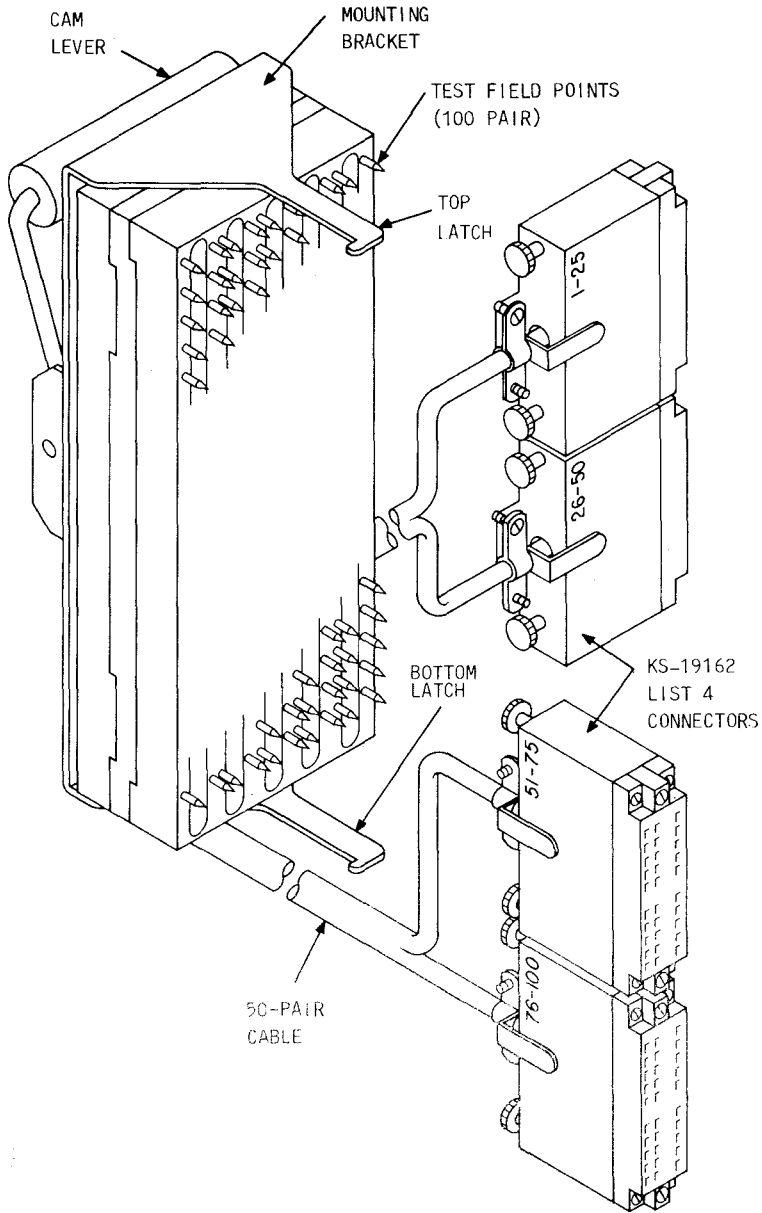

Fig. 14—U Test Connector
2.09 The *U test connector (AT-9007)*, shown in Fig. 14, consists of a three-piece plastic mold in which 200 spring-loaded contacts are housed and connected internally to two 50-pair sheathed cables. Each 15-foot long cable divides into two 25-pair branches which terminate on KS-19162 List 4 connectors. The KS-connectors are factory marked (1-25, 26-30, 51-75, and 76-100) to indicate the respective cable pair count. A cam actuated lever on the U test connector locks the test connector onto the metal bracket associated with the 309A1-200 through 309E1-type connectors. The bracket has two notched areas to provide for two-position testing, ie, with or without 4C-type protector units installed (Fig. 15).